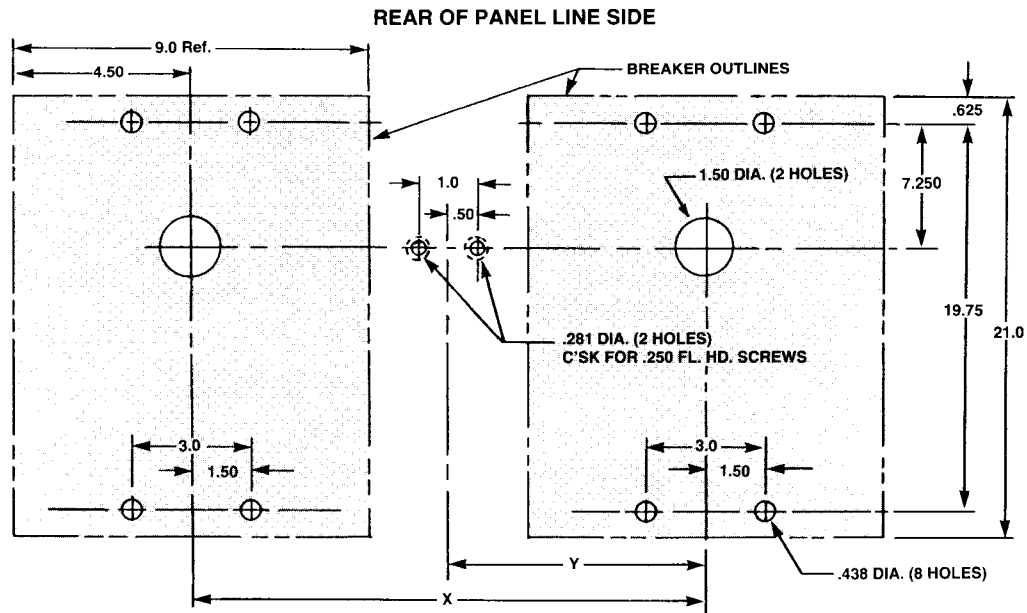

Fig. 2
- A. Drill customer supplied panel as indicated in Fig. 2.